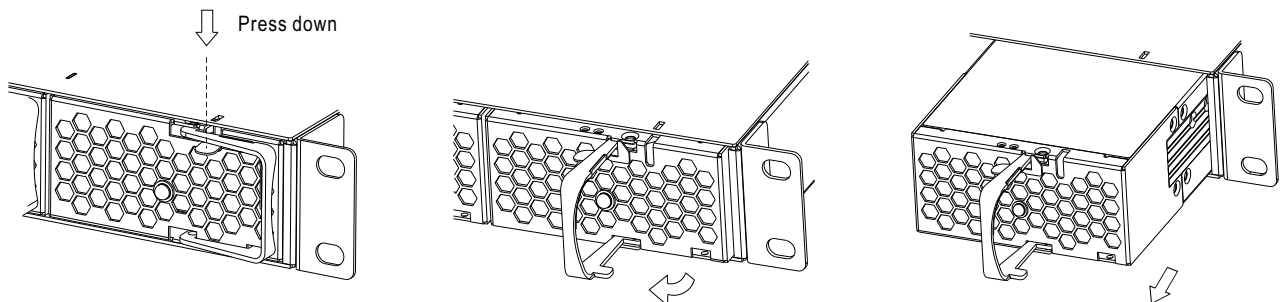

Figure 3-7 Illustration of how to remove the RCP/RCB-1600 from a rack
- ⊙ Pull out units: Press the clip shown in Figure 3-7 and pull it out.